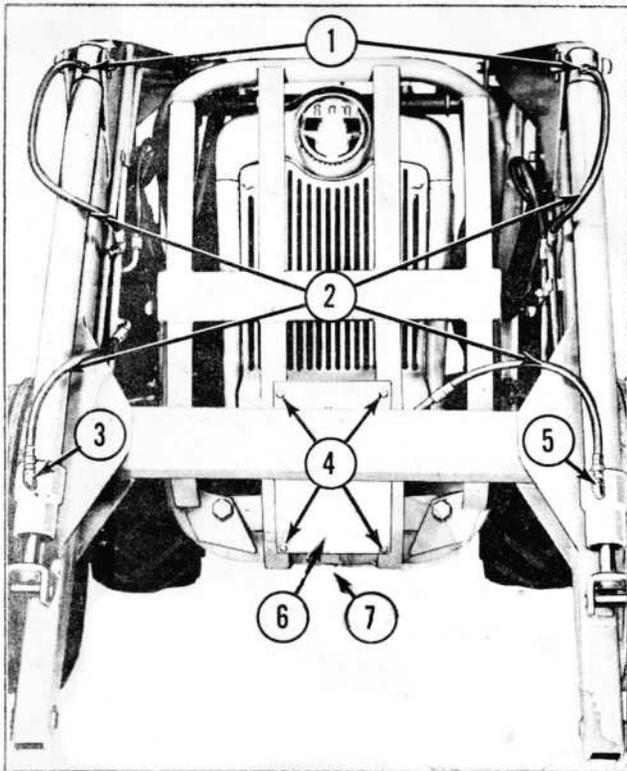
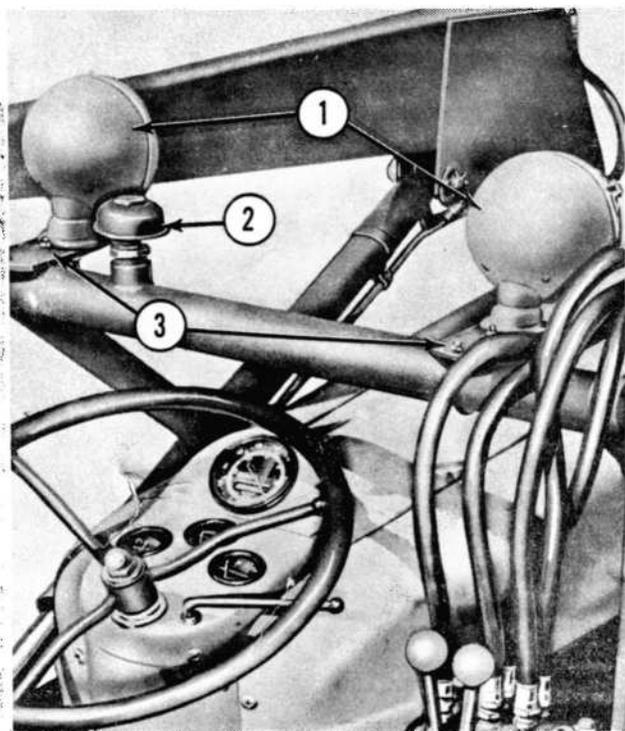

Figure 15
Figure 19
2. Install one $\frac{3}{8}"$ street ell in each bucket cylinder cap end as shown at (3), and (5), Figure 15.
3. Install four $\frac{3}{8}" \times 25"$ hoses (2), Figure 15, into the cylinder ports (1), and to the proper hydraulic line as shown.
1. Attach the headlight plates (3), Figure 19, to the frame crossmember, using the U-bolts, $\frac{3}{8}$ "-16 nuts, and lockwashers.
2. Install the headlights and flanges (1), Figure 19, on the headlight plates (3), with nuts and lockwashers.
1. Make sure the frame drain plug, located at the center rear of the frame sump member, (7), Figure 15, and the reservoir level pipe cap, (1), Figure 5, are installed. Remove the shipping tape from the crosspipe filler plug, (2), Figure 19.
7. Install the bumper plate, (6), Figure 15, with four 5/16" x 3/4" bolts, lock washers and nuts (4).
1. Remove the reservoir filler plug, (2), Figure 19, from the frame cross pipe and the oil level pipe cap, (1), Figure 5. Fill the reservoir with the same oil used for flushing until the level is up in the level pipe and re-install cap.
2. Submerge the breather cap (2), Figure 19, in hydraulic oil to completely saturate the element, and install in the filler opening.